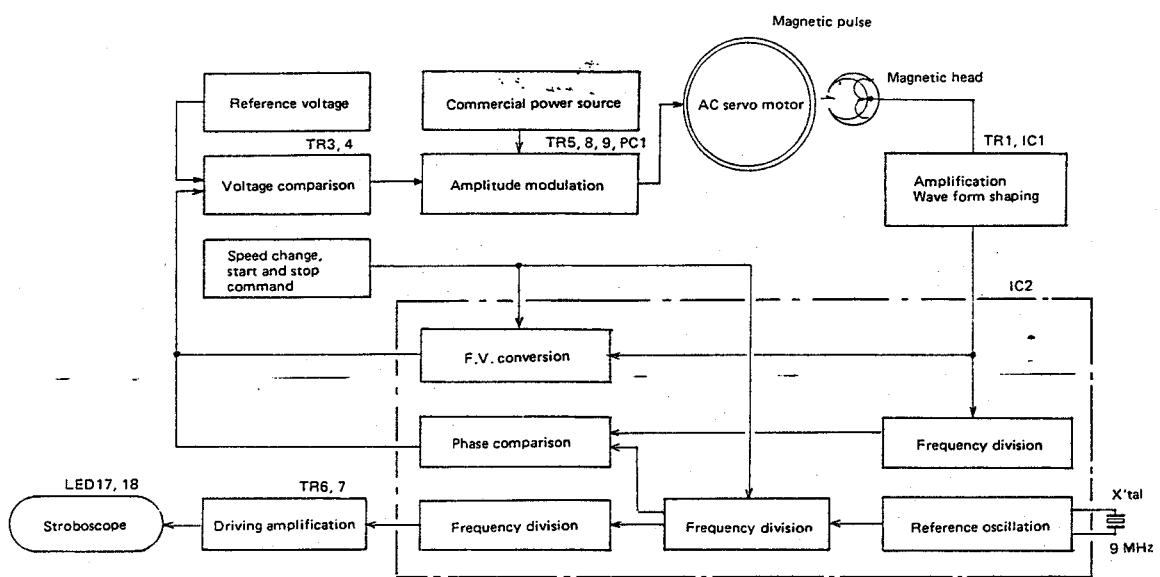

Fig. 3 Phono Motor Servo Block Diagram
- (1) Connect the respective probes of the dual trace oscilloscope to the test terminals for rotation adjustment, TP1 and TP3 to observe the wave form (earth grounding terminal TP2) on motor drive P.W.B.
- (2) Turn 33/45 selector switch of front panel (— 33 ■ 45) to ■ 45.
- (3) Adjust the wave form as shown in Fig. 3 by means of "VR1" 45 rotation VR.
- (4) Turn the 33/45 selector switch on the front panel to — 33.
- (5) Adjust the wave form as shown in Fig. 3 by means of "VR2" 33 rotation VR.